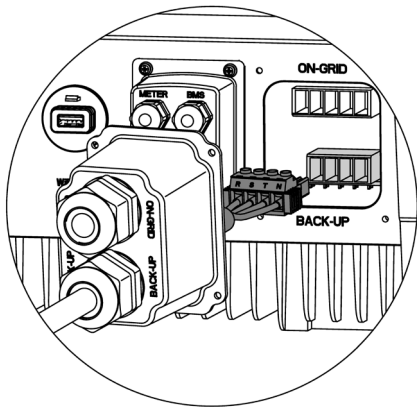

Fig. 56. AC BACK-UP connection.
- Connect the AC BACK-UP connector to the AC BACK-UP terminal on the inverter, as shown in Fig. 56 below: